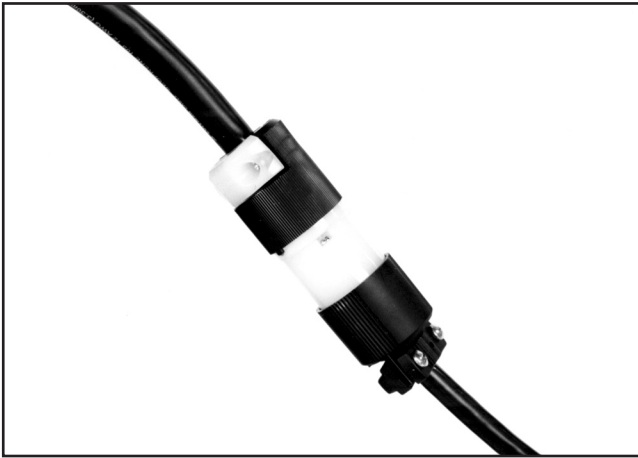

FIGURE 20
9) Couple the NEMA L5-15R receptacle of the factory supplied extension cord and the NEMA L5-15P plug located on the Floor Stripper together. Twist to lock. FIGURE 20. Connect the GFI to the power source receptacle. Determine that the reset switch is in its proper position to activate the GFI.